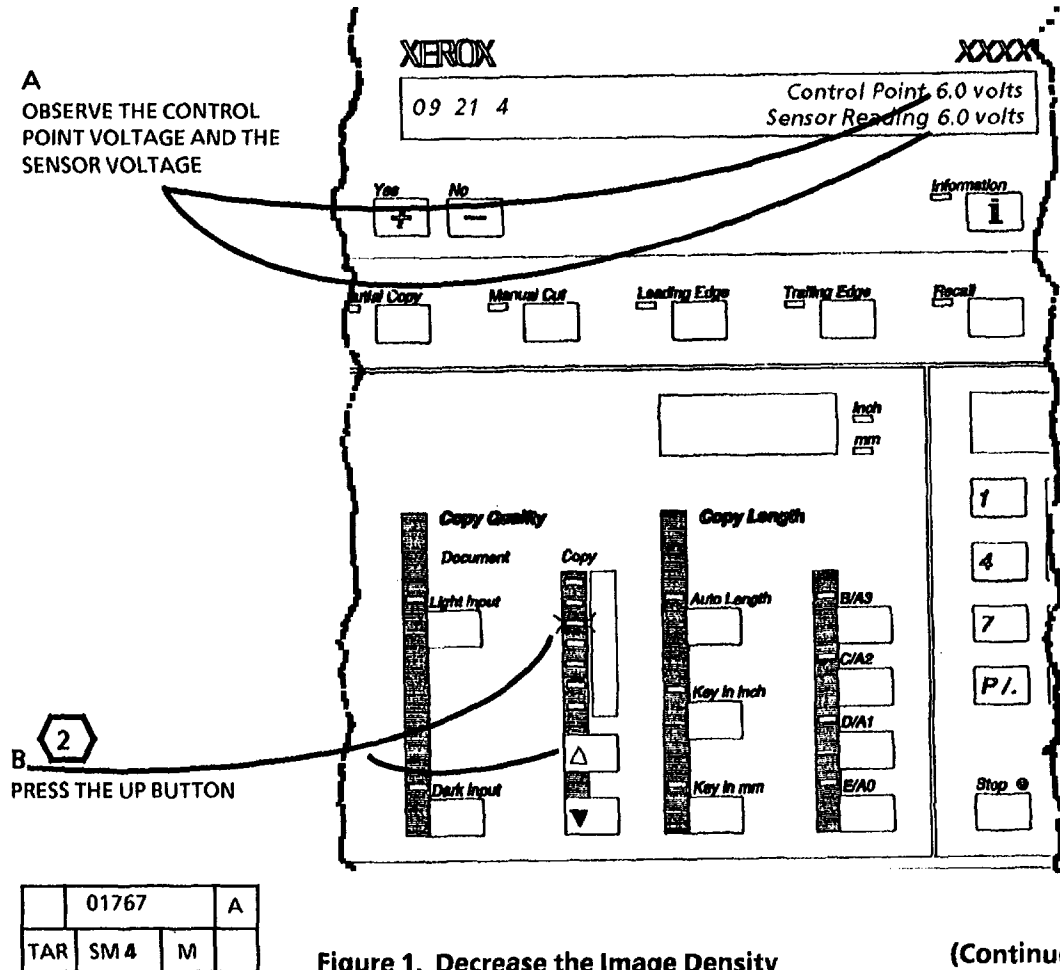

Figure 1. Decrease the Image Density
**STEP 3 B:** Each time the up button is pressed, the next higher LED will light, indicating a higher control point setting. A control point of 6.5 to 6.7 is the highest sensor voltage that can be attained. Do not move more than (2) increments at one time. This may result in a fault.
3. (Figure 1): Decrease the image density.